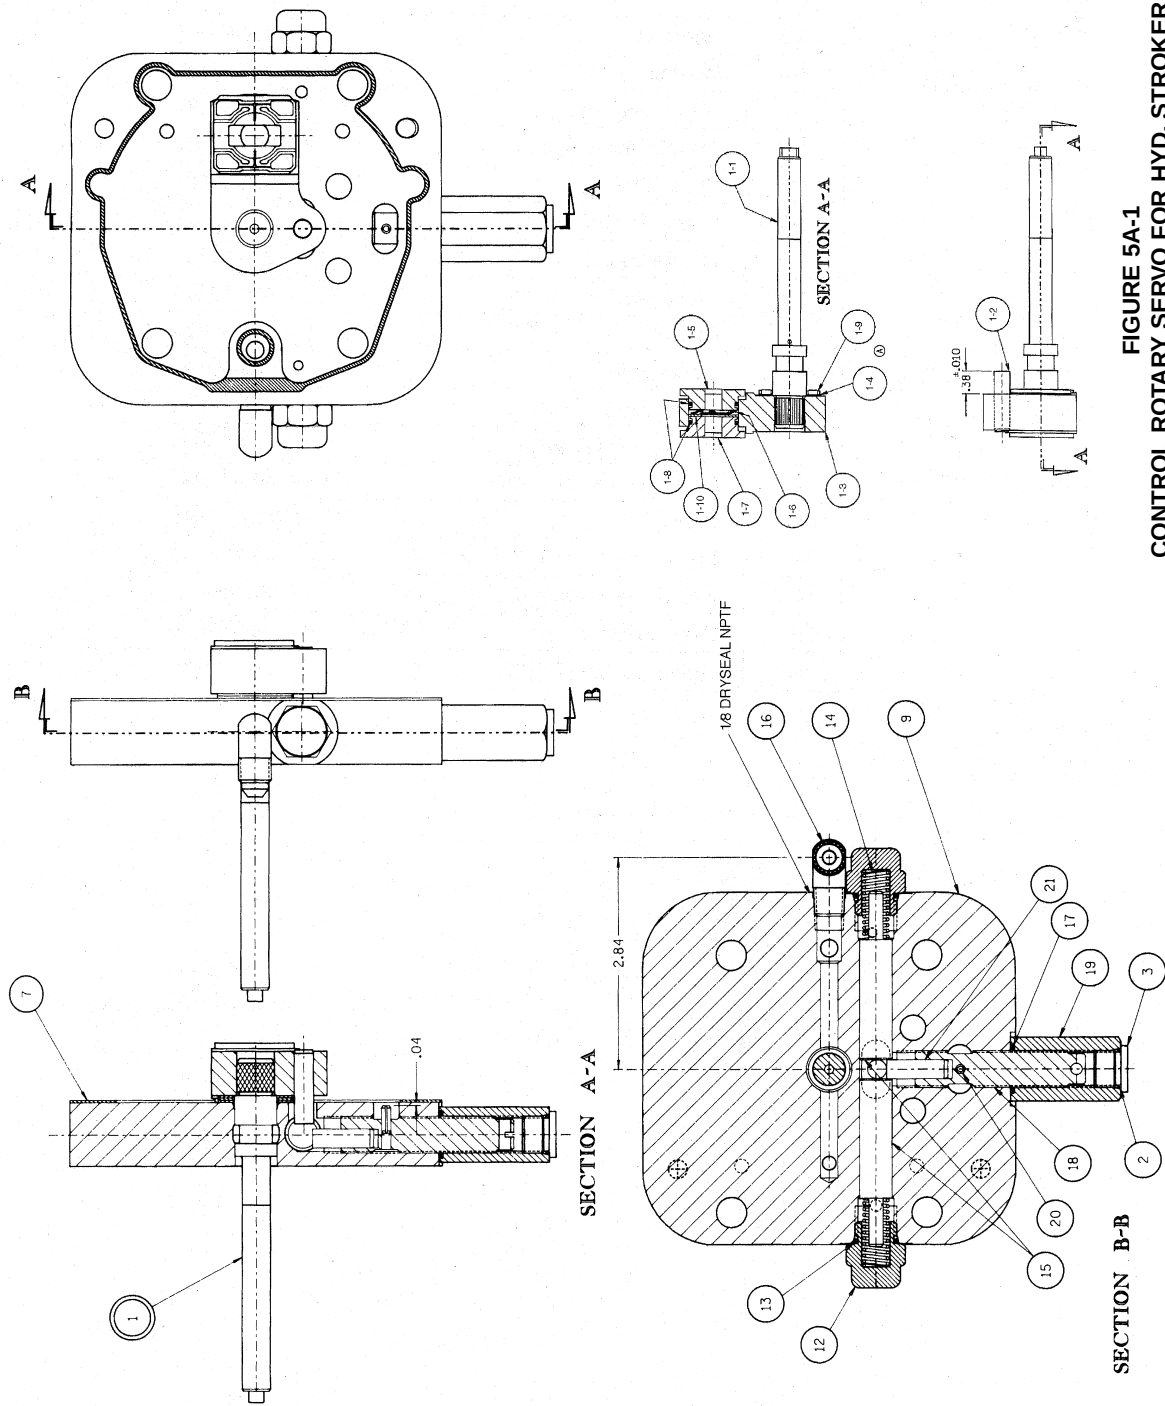

FIGURE 5A-1
*For Figure 5A-2 - Servo for electric